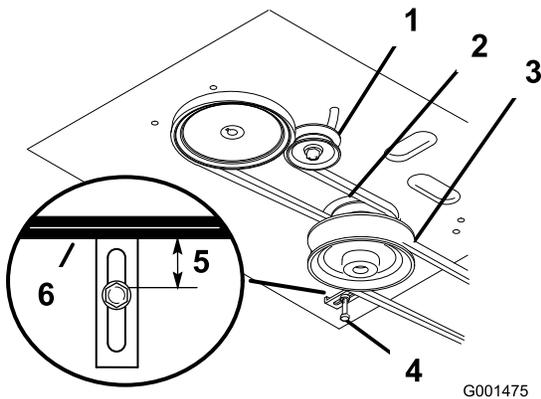

Figure 41
4. Remove the mower belt; refer to Replacing the Mower Belt (Figure 41).
5. Loosen the pivot bolt enough to slide the idler pulley in the slot and remove the traction belt from the engine and the drive pulleys (Figure 41).
6. Install the new drive belt around the engine and the drive pulleys (Figure 41).
7. Slide the idler pulley in the engine frame to tension the traction belt (Figure 41).
8. Install the mower belt (Figure 41).
9. Check the belt guide under the engine frame for the proper adjustment (Figure 41).